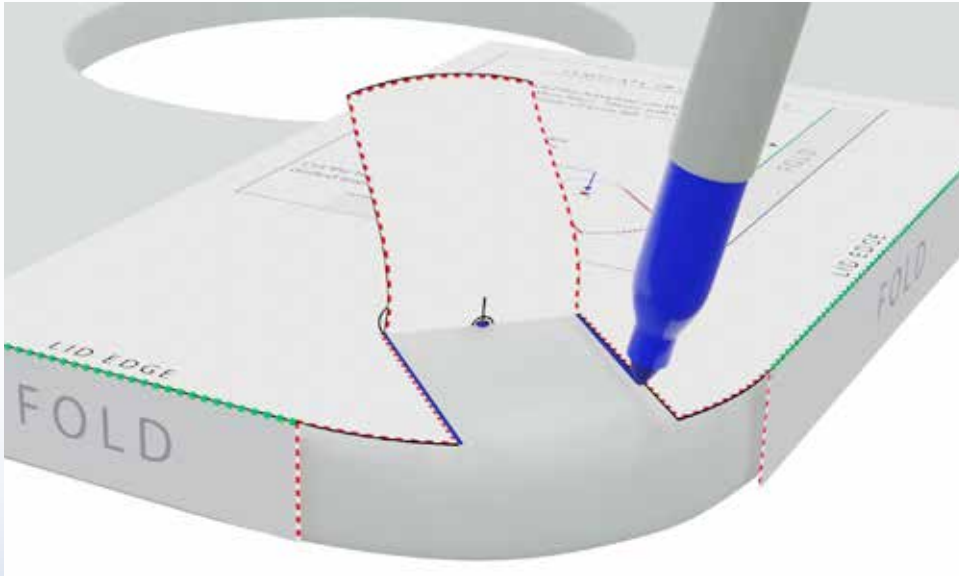

figure 26
**Step 3:** Gently lift the flap on the template and mark the two lines as shown. These will extend from the hole to the edge of the bucket (figure 26).